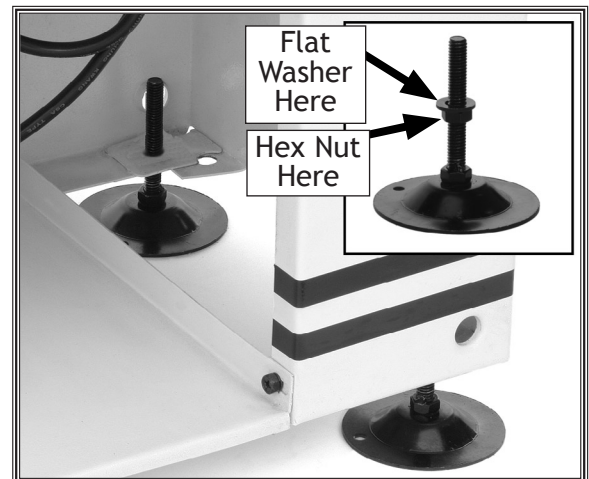

Figure 14. Installed feet.
5. Thread one 3/8"-18 hex nut and install one 3/8" washer onto each threaded foot shaft (see **Figure 14**).
6. Thread the foot shafts into the underside of the bandsaw cabinet (see **Figure 14**).